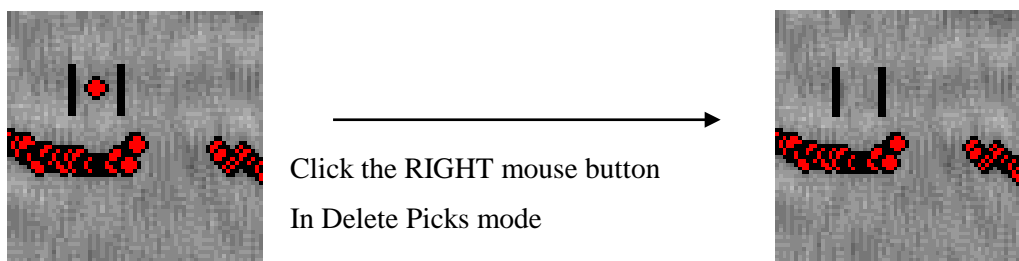

Figure 78: Example of correct mouse cursor position prior to deleting a poor pick.
- 1** To delete poor picks, a procedure similar to adding picks is followed. Position the mouse cursor so that the poor pick is located within the search area of the cursor as shown in Figure 78.